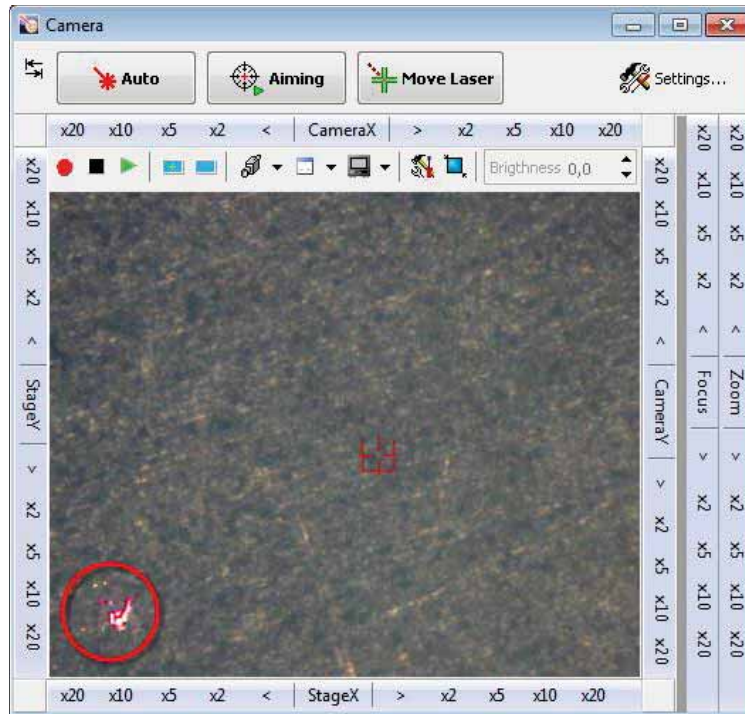

Fig. 7-11. Laser spot at the left bottom corner of the videoimage
9. Open the **Aiming Movers** window by clicking the button . Using controls of the panels **Laser X** and **Laser Y**, move the laser so as the laser spot comes to the left bottom of the videoimage (Fig. 7-11).